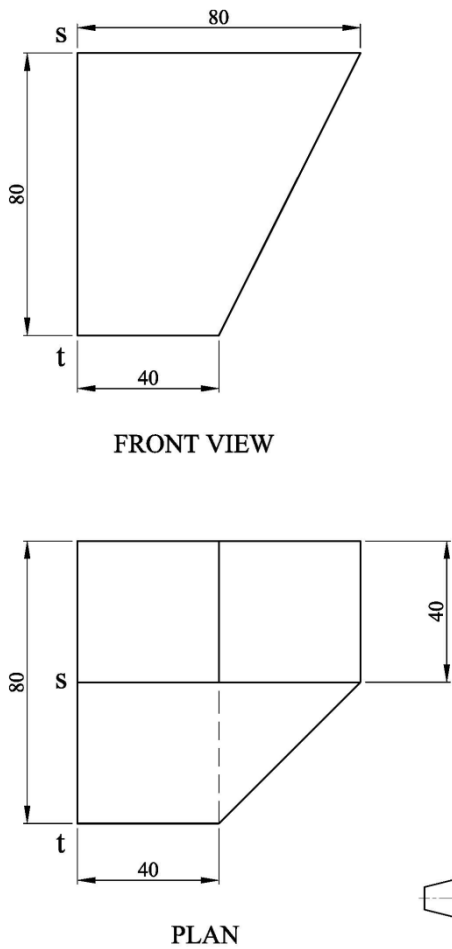

FIG. 5b
- Copy, full size, the plan and elevation shown in Figure 5b;